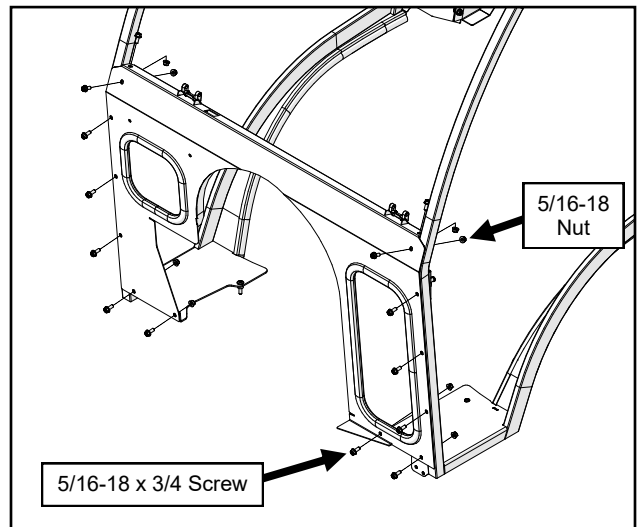

Fig. 7.1 (Install Cowl)
- 7.1 With assistance, carefully slide the cowl in place and loosely secure with fasteners. See Figure 7.1.